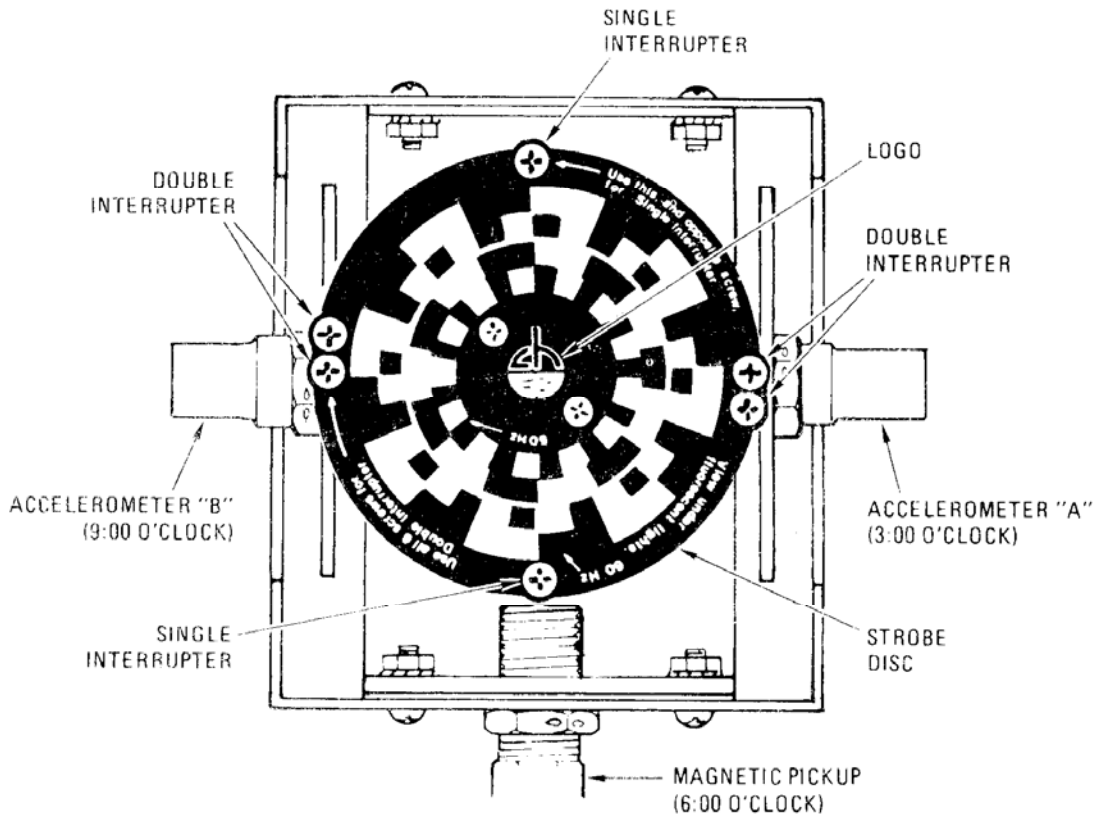

Figure 2. Tester interrupter placement.
d. Remove both pairs of double interrupter screws (fig. 2) on TI rotor disc, leaving only two opposite single interrupter screws.